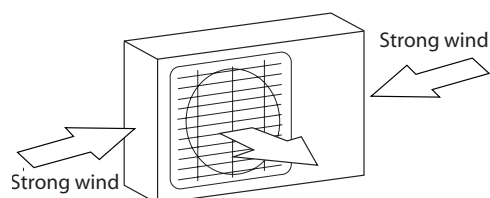

Fig. 6.1
- ❑ If the location is exposed to strong winds (for example: near a seaside), the unit must be placed against the wall to shelter it from the wind. If necessary, use an awning. (See Fig. 6.1 & 6.2)